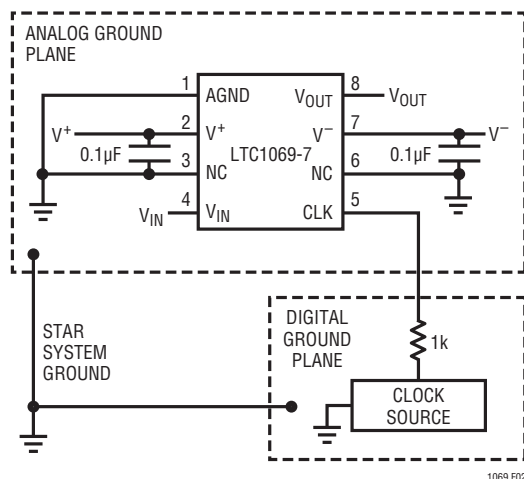

Figure 2. Connections for Dual Supply Operation
**V+, V- (Pins 2, 7):** Power Supplies. The V+ (Pin 2) and V- (Pin 7) should be bypassed with a  $0.1\mu F$  capacitor to an adequate analog ground. The filter's power supplies should be isolated from other digital or high voltage analog supplies. A low noise linear supply is recommended. Using switching power supplies will lower the signal-to-noise ratio of the filter. Unlike previous monolithic filters, the power supplies can be applied in any order, that is, the positive supply can be applied before the negative supply and vice versa. Figure 2 shows the connections for dual supply operation.